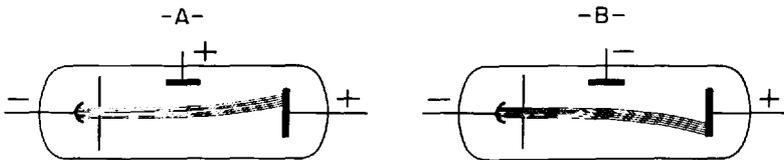

Fig. 43-4. *A*—The effect on the electron stream of a positive charge. *B*—The effect on the electron stream of a negative charge.
Similarly, if the plate has a negative charge on it, the ray will be repelled from it (Fig. 43-4). Thus, by varying the charge on a third plate other than the cathode and anode, the cathode ray can be bent up or down. This plate is known as a *deflecting plate*.
**Modern Cathode-Ray Tubes.** Now let us go back to the cathode-ray tube shown in Figure 43-4. We have already learned that if the stream of electrons strikes certain chemicals, such as zinc sulphide, it makes them glow. If we erect a screen coated with these chemicals and focus a beam of cathode rays upon it, we can see where the electrons strike it from the point of light which appears. By observing the motion of this point of light toward and away from the deflecting plate, we can visualize the varying charges on the deflecting plate.